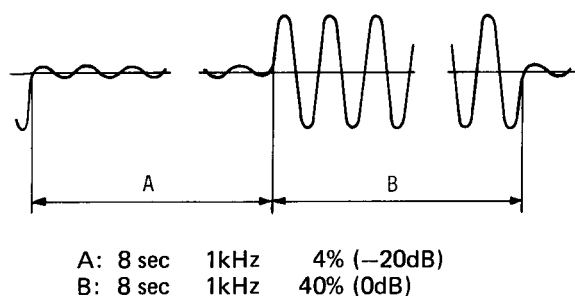

Fig. 3.15 CX System Check Signal
- The audio signal offset adjusting signal is recorded from Frame #9,001 (Chapter #11) of test disc F2. This signal consists of a sine wave of 1 kHz in channel 1/left (CH-1/L) and a non-modulated signal in CH-2/R as shown in Fig. 3.15. Then, from Frame #10,351 (Chapter #12), the relationship of the channels is reversed.
- In the signal shown in Fig. 3.15, gain is changed over in Sections A and B, if the CX system is operative.